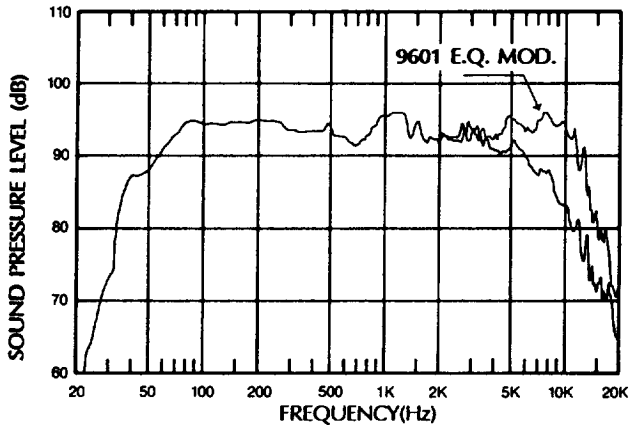

Figure 1. Frequency Response (See Note 2)
Frequency Response:	45 Hz - 13 kHz (see Figure 1, Note 2)
6. Open the 1233A horn mounting kit at this time. Remove the 30281 horn mounting board from its box. The two small slotted L-brackets should be mounted to the top front of the horn mounting board. The base mount and slide brackets should be installed at the rear of the mounting board. (see figure 1.)
10. Place the horn and mounting assembly on top of the 8254 and attach it using four 1 3/4" screws, a flat washer and a lock washer. (see figure 1.)